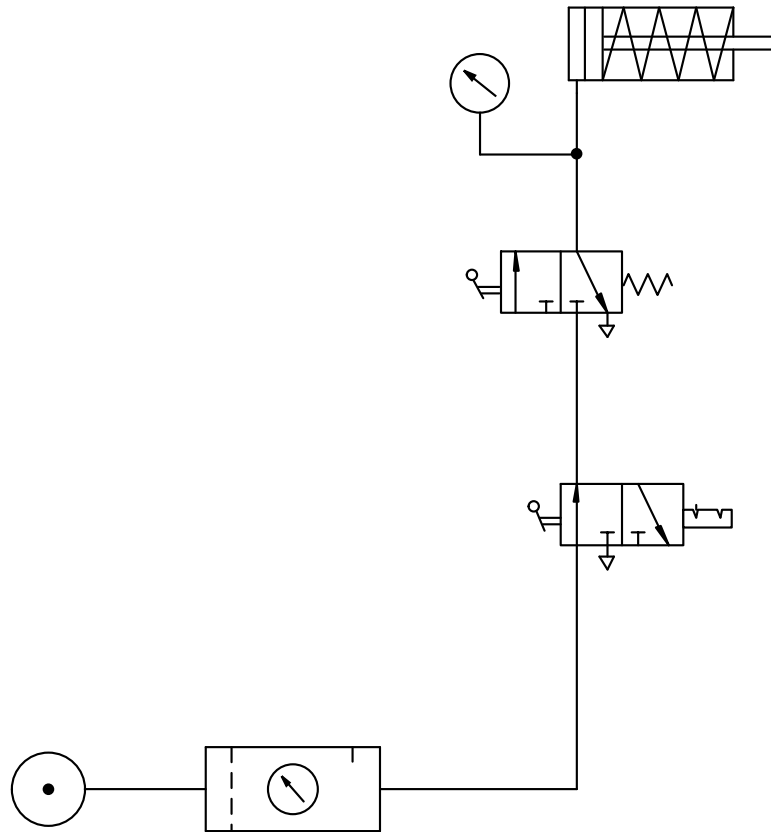

FIG 14.
A. Select the components and construct the circuit as shown in Fig 14.